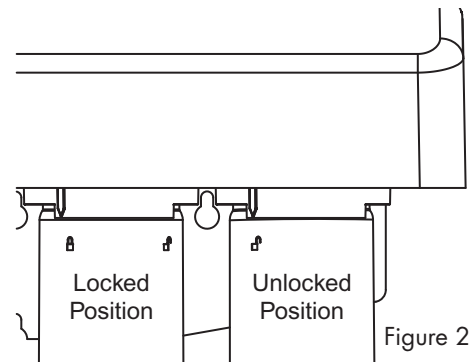

Figure 2.
2. Twist the cartridge to lock it into the manifold. See Figure 2.